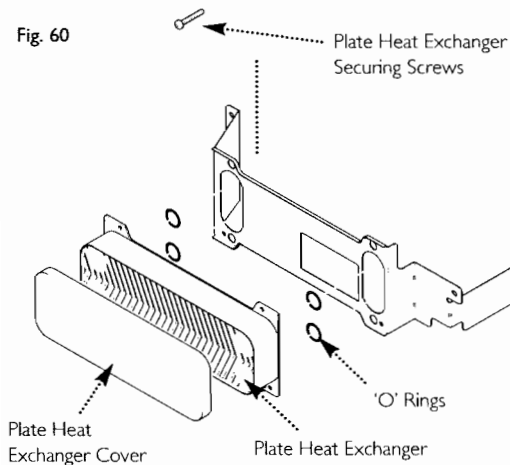

Fig. 61
3. Remove the plate heat exchanger cover (Fig. 61)
4. Remove the 'O' rings from the manifolds and replace with new 'O' rings (Fig. 61).